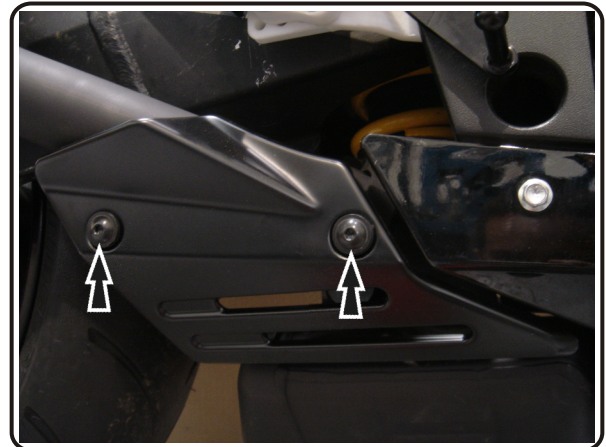

Fig. 1
- 1 Remove stock right side tailpipe heatshield (see Fig. 1).